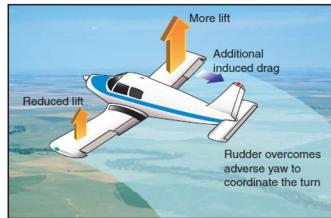

Figure 4.1: Adverse yaw.
- Suppose you're flying right behind an airplane. The plane wants to turn left, so it deflects its left aileron upward and right aileron downward. Now, the left wing will create *less* drag since C_L is smaller and hence C_{D_i} is smaller, whereas the right wing will create *more* drag as C_L is larger and hence C_{D_i} is larger as well. This causes a moment around the Yaw-axis, causing the plane to turn right instead of left, what you intended to do by creating the roll (see also figure 4.1).